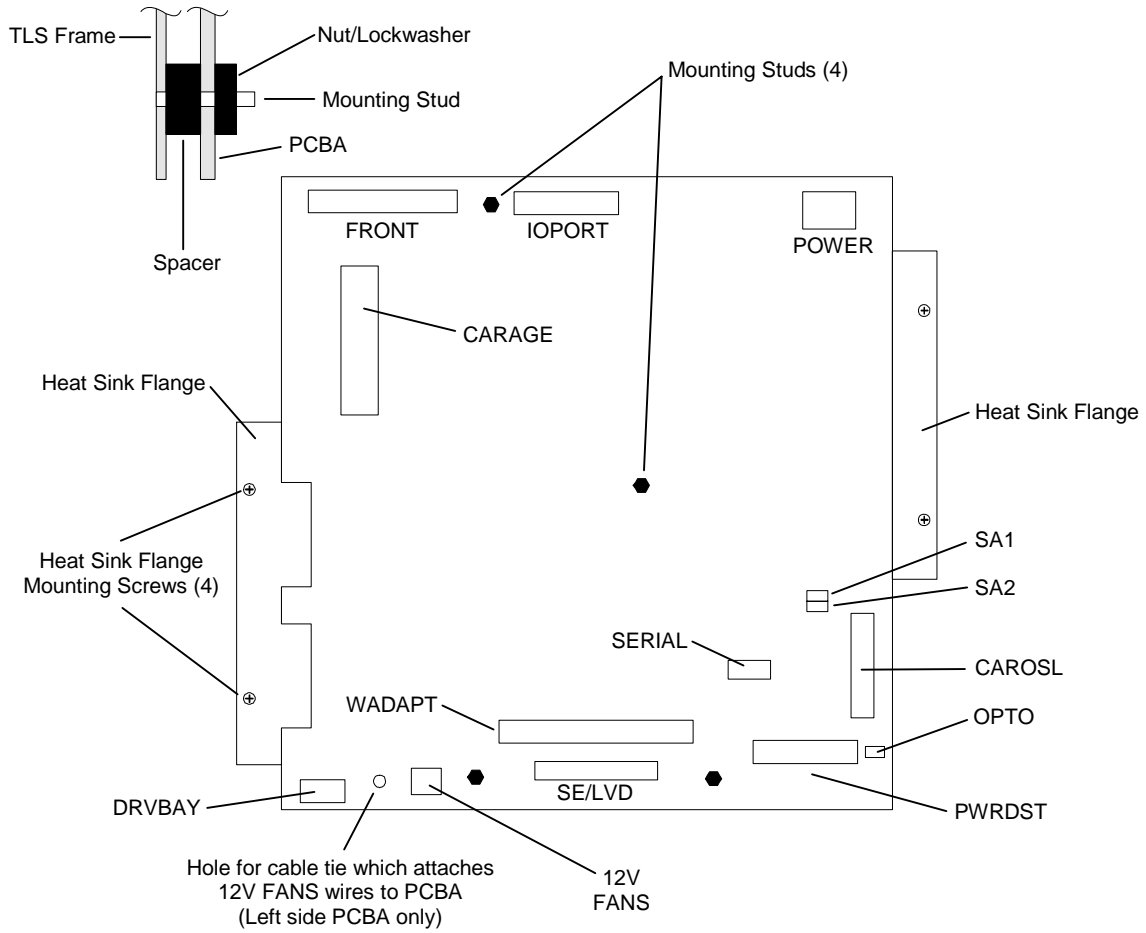
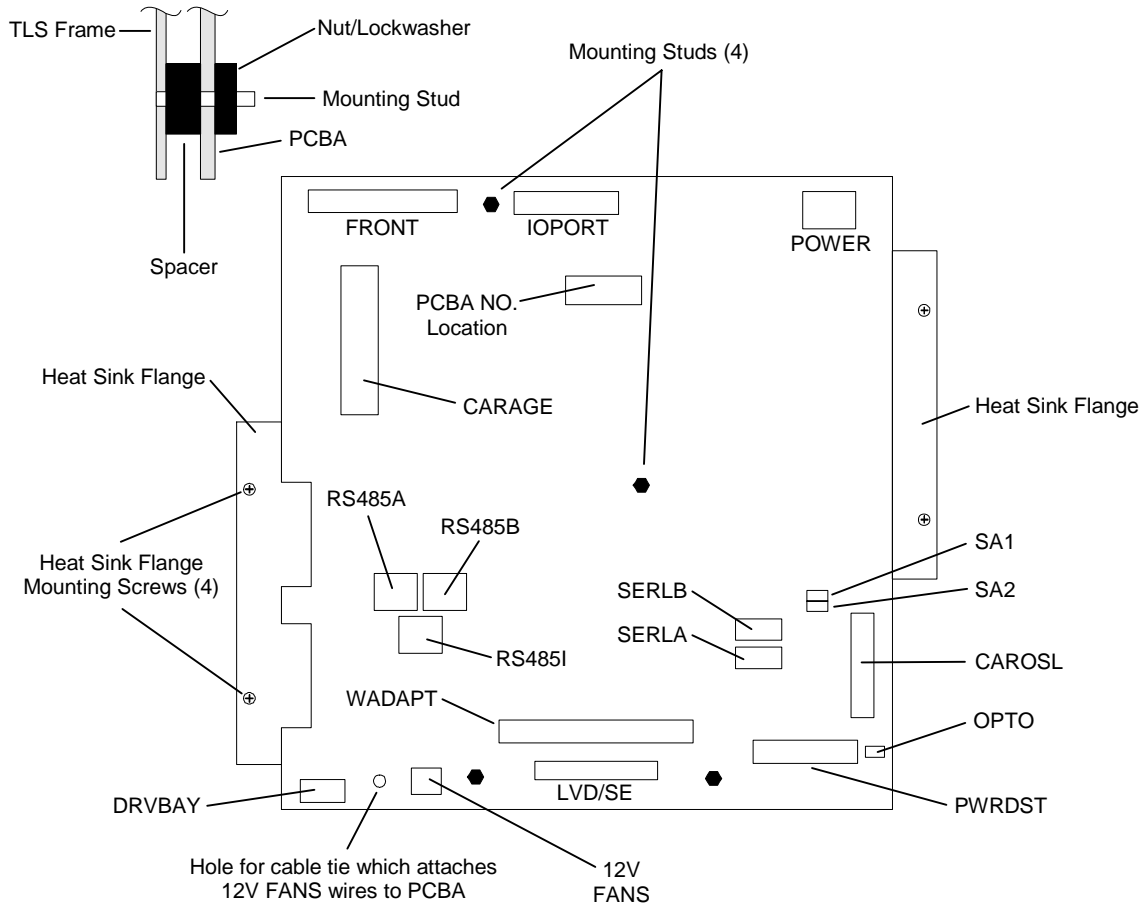

Figure 7-34 Executive II and III PCBA's
Figure 7-35 Executive IV PCBA
- This step only applies when removing the right side Handler Power Supply. Disconnect the Switch Bracket (Front) Cable and the IOPORT Cable from the Executive PCBA (Figure 7-34), then lift the cables up to provide enough slack to remove the power supply.
7. This step only applies if the right side Handler Power Supply was removed. Reconnect the Switch Bracket (FRONT) Cable and the I/OPORT Cable to the Executive PCBA (Figure 7-34). Make sure that the connectors are fully inserted, until the locking tabs of the mating connectors are fully closed.
Refer to **Figure 7-34** or **Figure 7-35**.
Refer to Figure 7-34 or Figure 7-35.
This connector only attaches to the left side Executive PCBA of 412180/360 models. The connector is not polarity-sensitive or keyed. After the connector is attached to the PCBA, insert a Cable Tie through the hole in the Executive PCBA (Figure 7-34), then secure the Fan Assembly's power cable to the Executive PCBA.